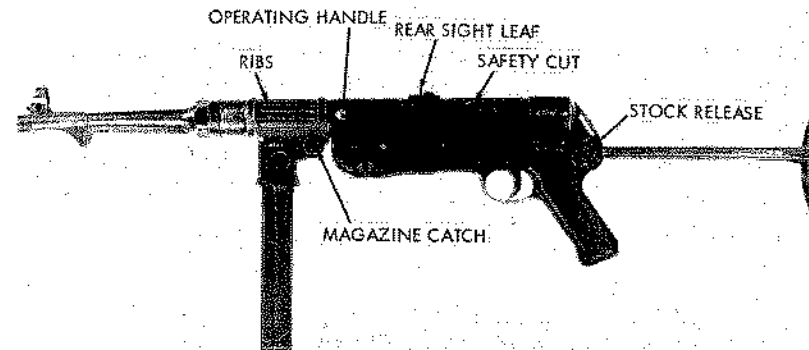

Figure 48. World War II German Model 1938 submachinegun (MP38).
a. The 9-mm submachineguns Model 1938 and 1940 (figs 48 and 49) were produced in large quantities by Nazi Germany prior to and during World War II. Enormous quantities of these weapons were captured by or surrendered to the Soviets and their satellites at the end of World War II; ~~because of this, while these guns are no longer standard in any army, they are often encountered in the hands of irregular or insurgent units.~~ The two weapons are almost identical in appearance; the prime recognition feature is the ribbed MP 38 receiver as opposed to the smooth MP 40 receiver. Both weapons have identity marks and serial numbers stamped into the cap at the rear of the receiver. The MP 41, a similar but ~~now uncommon model~~, has a fixed wooden butt stock.
b. Insert the magazine into the magazine housing until the magazine catch (fig 48) engages and holds the magazine in place.
c. If the MP 38 or MP 40 is equipped with a safety latch on the operating handle (fig 48), move it outward as far as possible. Pull the operating handle fully rearward; then ease it forward until the bolt is caught by the sear.
d. If desired, the gun can be made safe by pulling the operating handle to the rear until it can be rotated up into the safety cut (fig 48).
e. The folding stock can be opened or folded by pressing the large, knurled, stock release at the left rear of the receiver (fig 48) and moving the stock to the desired position. The butt plate can be rotated into position.
g. Remove the magazine by pressing the magazine catch (fig 48) and pulling the magazine out of its housing.